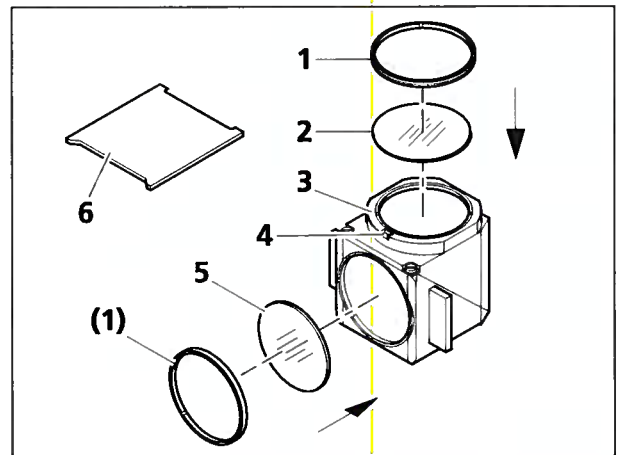

Fig. 6-10 Changing the filter set in the FL P&C reflector module.
- Remove the FL P&C reflector module (Fig. 6-10/3) from the reflector turret and put it aside.
- Unscrew the retaining ring (Fig. 6-10/1) with the mounting plate (Fig. 6-10/6) included in the tool kit.
- Turn the reflector module over and allow the filter (Fig. 6-10/2 or 5) to drop onto a soft surface.
- Insert the emission filter with Fig. 6-10/2 and excitation filter with Fig. 6-10/5 and secure with the retaining rings (Fig. 6-10/1).
Locking and excitation filters may have an inscription and arrow on the perimeter. The arrow indicates the direction the filter must be inserted into the reflector module; it must always point inwards (see arrows, Fig. 6-10).
When inserting the emission filter into the reflector module, the marking must be aligned with the orientation groove (Fig. 6-10/4). This ensures that the wedge angle of the emission filter in the reflector modules used has the same defined position. This compensates for or minimizes the image offset – already small in Zeiss filter sets – between modules.